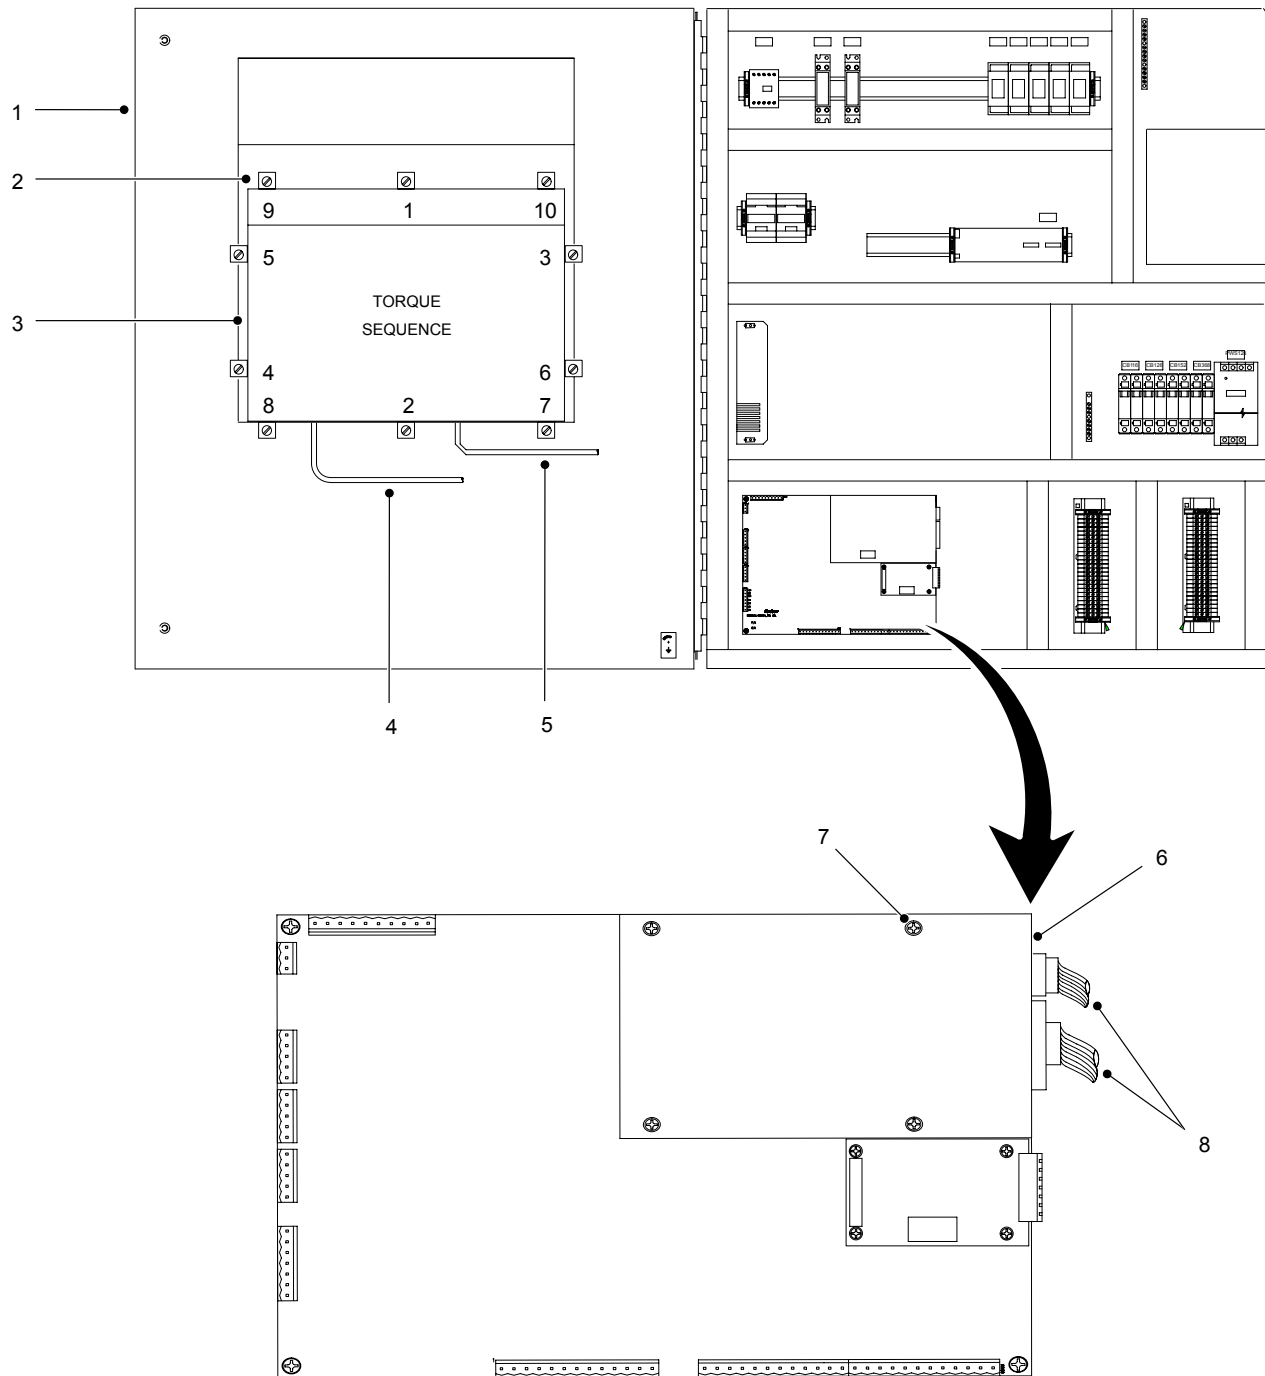

Figure 8 Typical Repairs
2. See Figure 8. Open the enclosure door (1).
3. Disconnect the AC (4) and Serial (5) cables from the operator interface (3).
4. Remove the mounting clips (2) securing the operator interface (3) to the enclosure door (1). Remove the operator interface from the enclosure door.
5. Make sure that the sealing gasket on the operator interface (3) is properly positioned.
6. Install the new operator interface (3) into the enclosure door (1).
7. Install the mounting clips (2). Using the torque sequence shown in Figure 8, tighten the mounting clips to 10 in.-lb (1.1 N•m).
8. Connect the AC (4) and Serial (5) cables to the operator interface (3).
9. Close the enclosure door (1).
3. Disconnect the electrical connectors (8) from the PCA (6).
4. Remove the screws (7) from the PCA (6).
5. Install the new PCA using the screws (7). Do not over tighten the screws.
6. Connect the electrical connectors (8).
7. Close the enclosure door (1).